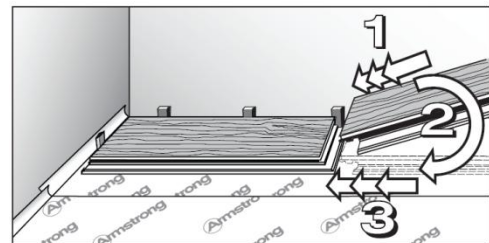

Fig. 9
3. Install second and subsequent full pieces in the first row by aligning short ends of boards and locking into place (**Fig. 9**).
4. Use spacers along all sides that butt up against walls to maintain 1/4" (6.35 mm) to 1/2" (12.7 mm) expansion zone (**Fig. 9 & 10**).